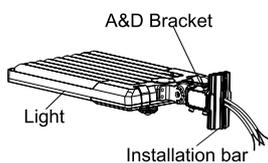

Figure 21
Step 1: Remove the four bolts from A&D bracket, remove the four rubber plugs from installation bar, put the four rubber plugs on the place where the four bolts were previously placed on the bracket for waterproof purpose (Figure 21)